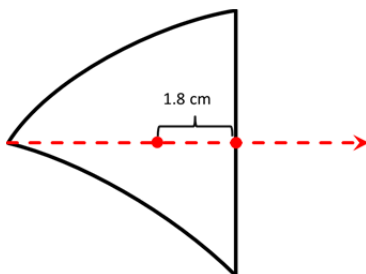

Figure 3
4. Following the line you just drew, use the ruler to measure 1.8 cm inside the outline from the flat side of the outline. Make a small mark as in Figure 3.